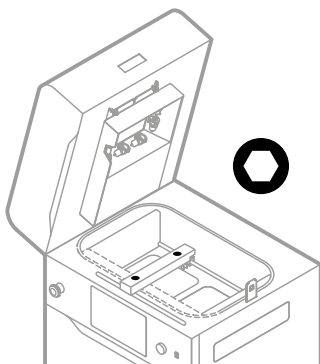

Fig. 12.55 Set the Recoater and remove the screws from the Recoater cover.
7. Using a 2 mm allen key, unscrew both screws on the Recoater cover and take off it (fig. 12.55).